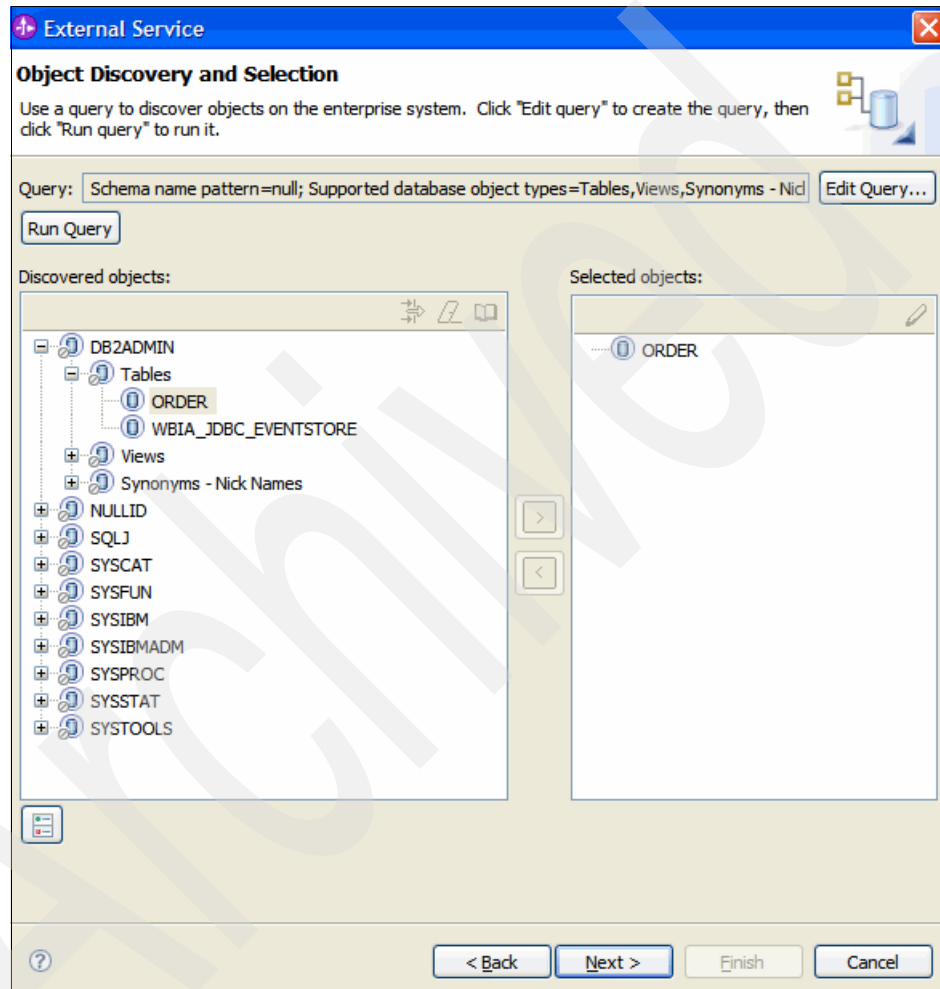

Figure 6-13 External Service – Object Discovery and Selection window
8. In the External Service – Object Discovery and Selection window (Figure 6-13), discover the available business objects and services on the database. Click **Run Query** to find the table list. Under Discovered objects, select **DB2ADMIN** → **Tables** → **ORDER** and click the > button to add ORDER to the objects to be imported. Click **Next**.